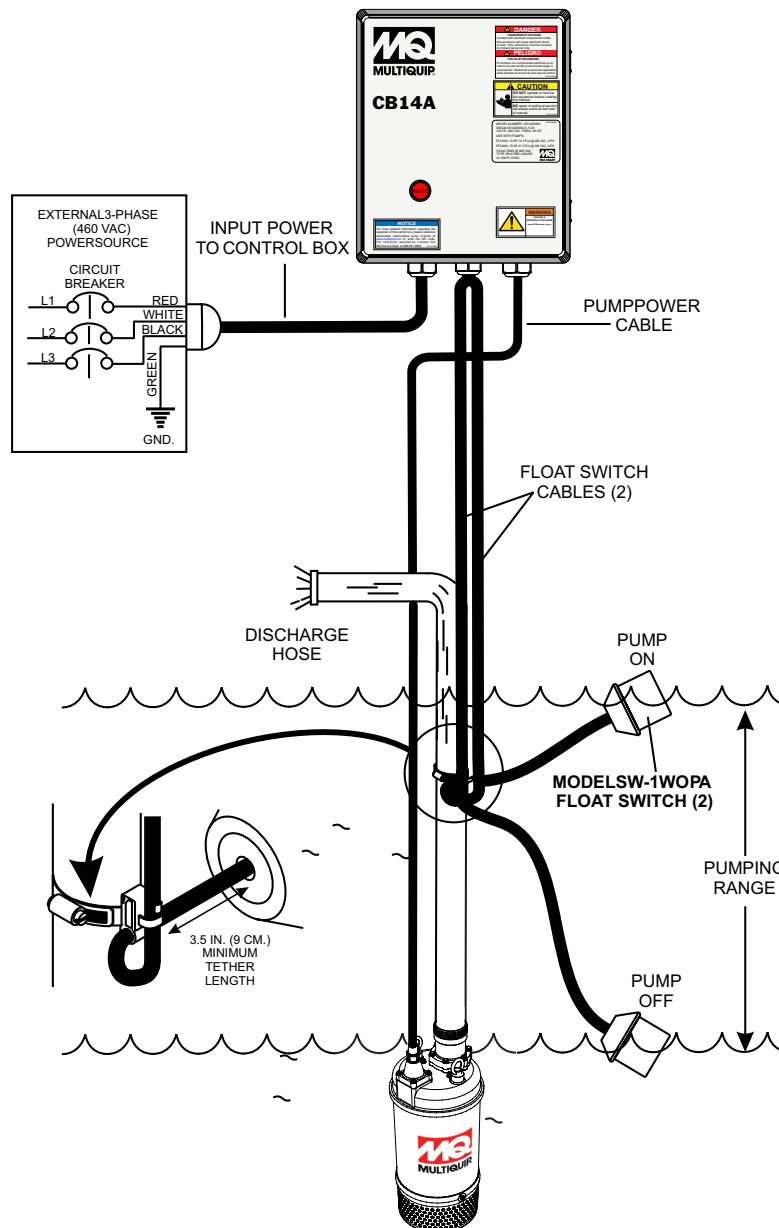

Figure 6. Float Switch Application (CB14A Shown)
2. Place the cord into the clamp as shown in Figure 6.
3. Secure the clamp to the discharge hose as shown in Figure 6. **DO NOT** install cord under hose clamp.